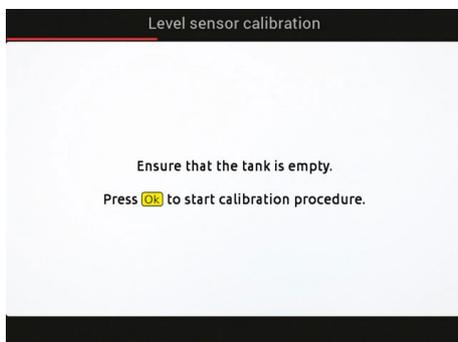

Fig. 146
**2** The message in Fig. 146 is displayed: follow the instructions, then start the procedure by pressing **[OK]**.